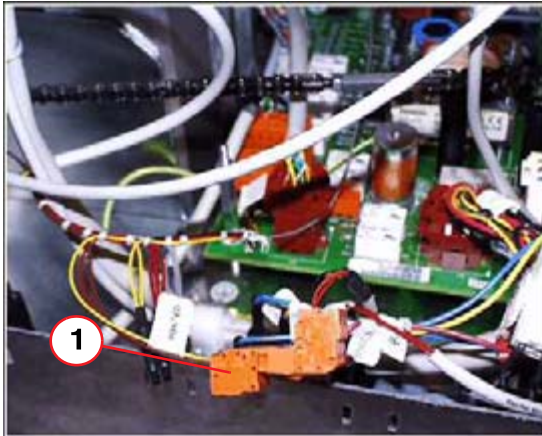

Fig. 3: Switch plug connection
- Reconnect the unplugged connector to the existing plug-in connection D3.X6A at the new cable harness (1/Fig. 3 / p. 6).